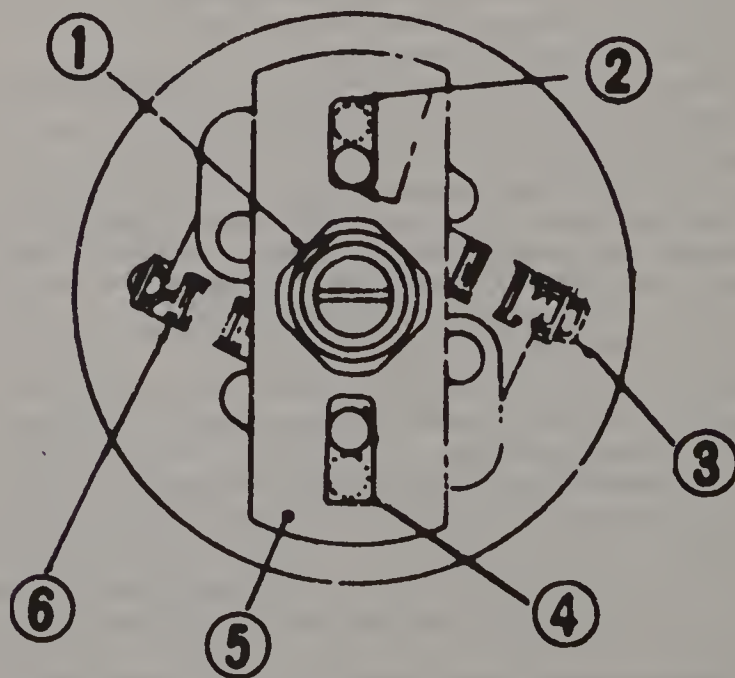

Fig. 5.3 Cam and advance spring component positions – breaker point distributor (Sec 11)
Refer to Figs. 5.3 and 5.4
- 9 Reassembly is the reverse of disassembly. When installing the advance weights and springs, refer to Fig. 5.3. When installing the gear, align the flat on the reluctor assembly with pole piece B on the pick-up coil, then align mark A on the gear with the notch in the lower end of the housing and install the roll pin (see Fig. 5.6).